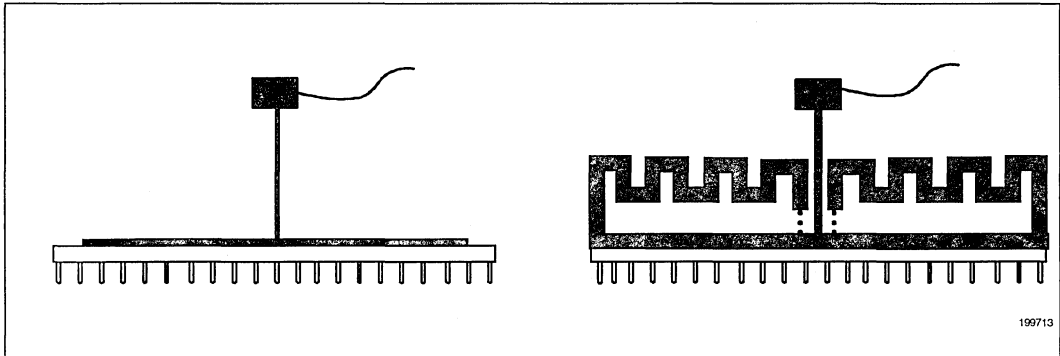

Figure 15. Technique for Measuring T_C *
without a heat sink attached. When a heat sink is attached, a hole (smaller than 0.150" diameter) should be drilled through the heat sink to allow probing the center of the package. See Figure 15 for an illustration of how to measure T_C.
- The thermocouple should be attached at a 90-degree angle as shown in Figure 15.